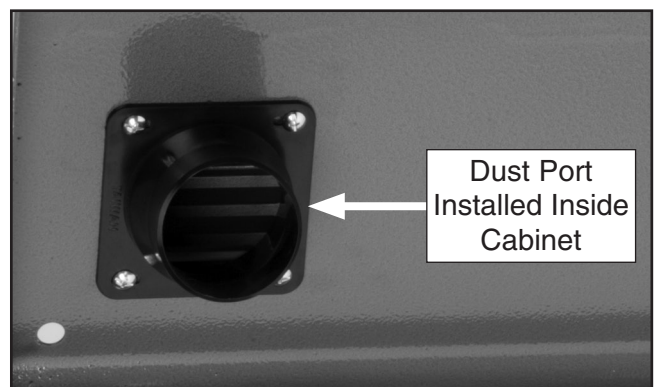

Figure 17. Dust port installation.
- Install the dust port, as shown in **Figure 17**, with the four 10-24 x 1/4" Phillips head screws.